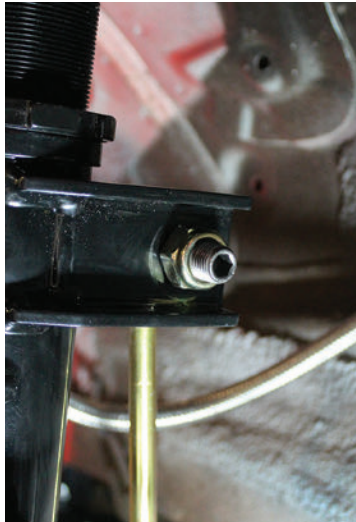

fig. D.12
4. Install the new end link to the strut and stabilizer bar. Torque nuts to 98-118Nm (72-87 lb.-ft.) (Figs. D.12 & D.13).